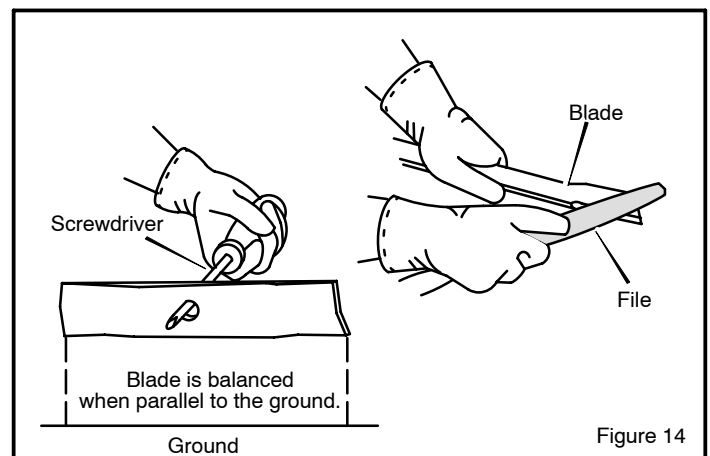

Figure 14
4. Sharpen the **blade** with a **file** (Figure 14). Make sure you keep the original bevel angle.
5. Make sure the **blade** is balanced. Use a **screwdriver** and hold the **blade** parallel to the **ground** (Figure 14). A **blade** that is balanced will stay parallel to the **ground**. If the **blade** is not balanced, the heavy end will rotate toward the **ground**. Sharpen the heavy end until the **blade** is balanced.